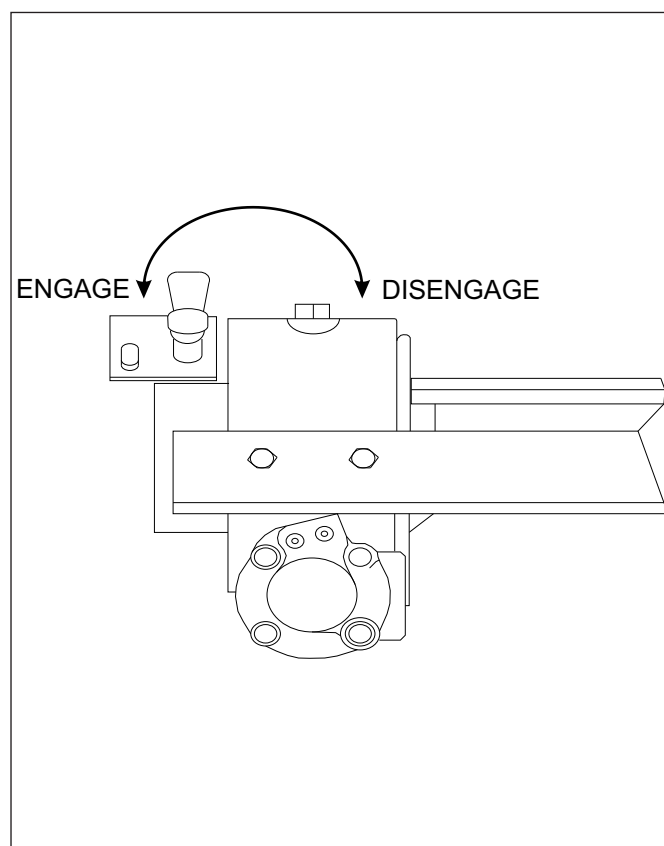
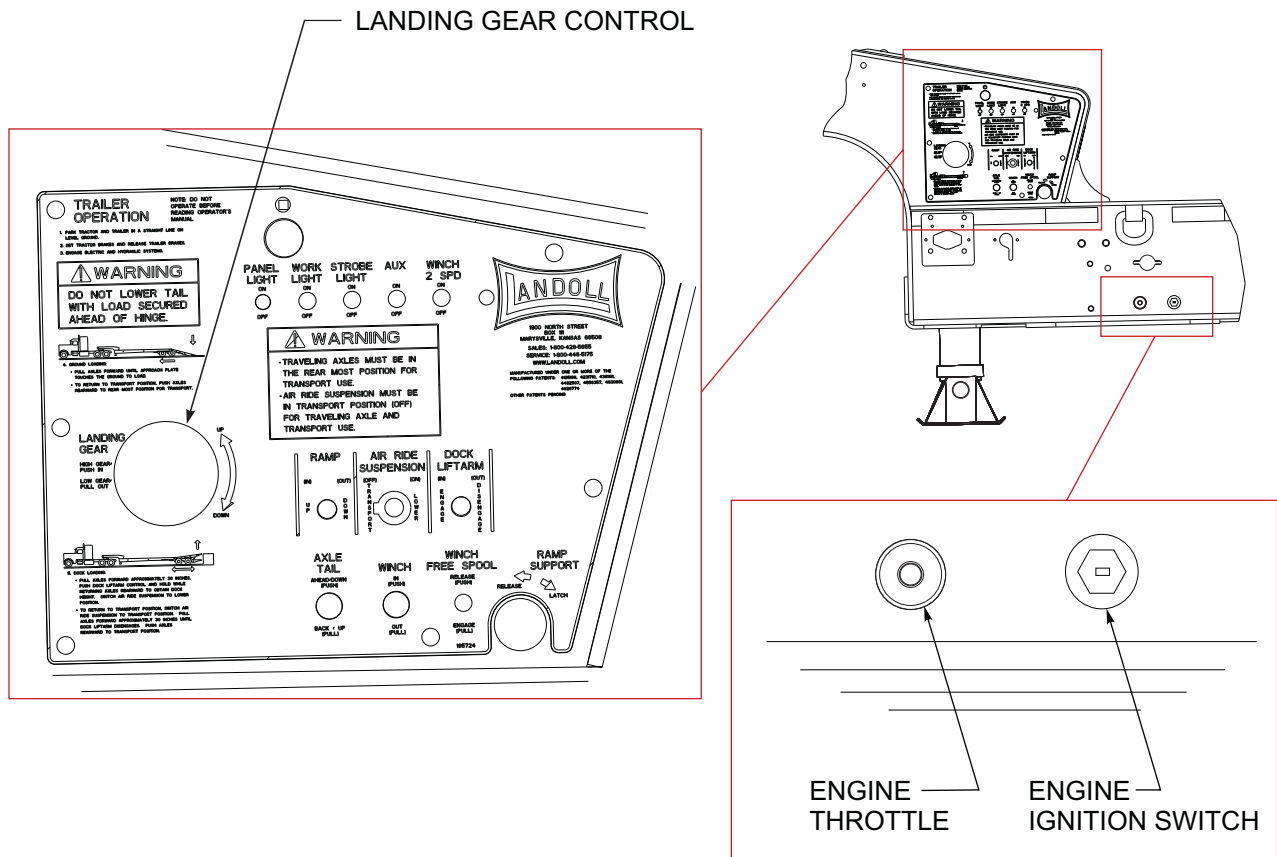

Figure 3-6: 20,000 LB. Winch Manual Clutch
Figure 3-10: Hydraulic Engine Package Control Panel (Option)
2. The Engine Ignition Switch is located below the hydraulic controls, and behind them on the driver's side of the semitrailer (See Figure 3-10.) Use the key to start and stop the Hydraulic Power Supply Engine. This switch has three positions: (See Table 3-5.)
3. The Hydraulic Power Supply Engine Throttle is located to the right on the driver's side of the semitrailer (See Figure 3-10.) The Engine Throttle controls the speed at which the engine operates. It is a variable position control (See Figure 3-6.)